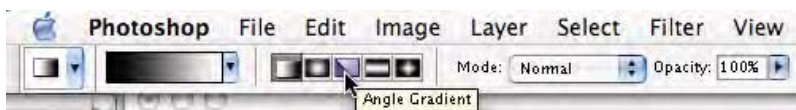

Fig. 9-12-11 Click the **Angle** gradient icon as seen here.
7. In the option bar, ensure the gradient type is set to **Angle Gradient** (the third icon in the group). Ensure the **Mode** pop-up menu is set to **Normal** and **Opacity** is set to **100%** as seen in Fig. 9-12-11.